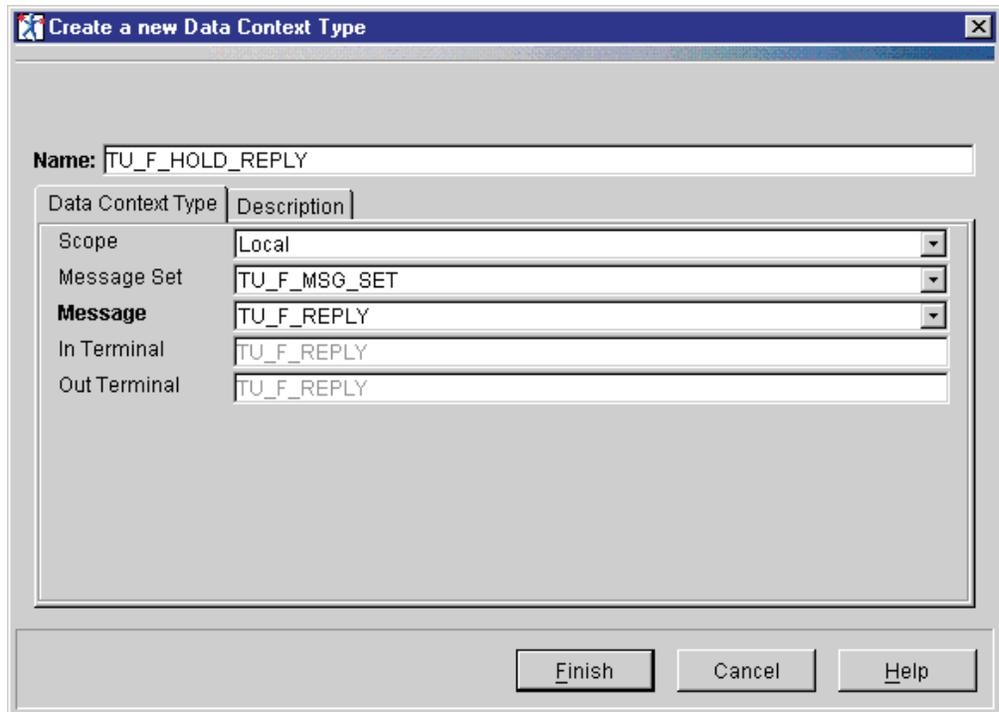

Figure 164. Creating a TU\_D\_HOLD\_REPLY Data Context type
- b) Using the drop down menus, set the field property values shown in Figure 164 on page 208.